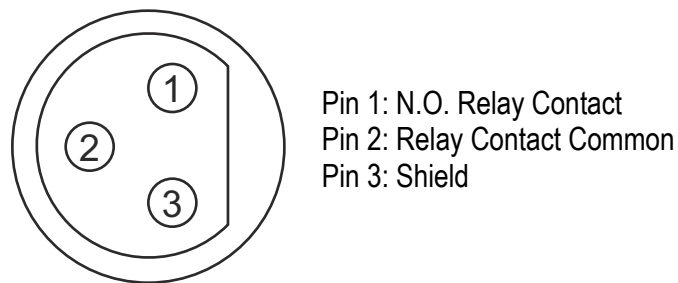

Figure 1-11. Control Interface Connector Pin Diagram
- Remote Fan Relay – The LMC can control external devices such as the exhaust fan. See Figure 1-11. This connection allows the LMC to switch an external exhaust fan that has an appropriate motor starter or relay to start the motor. The switch (pilot duty relay - dry contacts) inside the machine does not supply power and cannot pass sufficient current to run a motor directly. The fan motor must be started by a relay. Pressing the Exhaust button on the Control Panel causes a switch closure between Pin 1 and Pin 2. A mating connector is supplied with the LMC. This switch is rated at 120VAC, 1A.